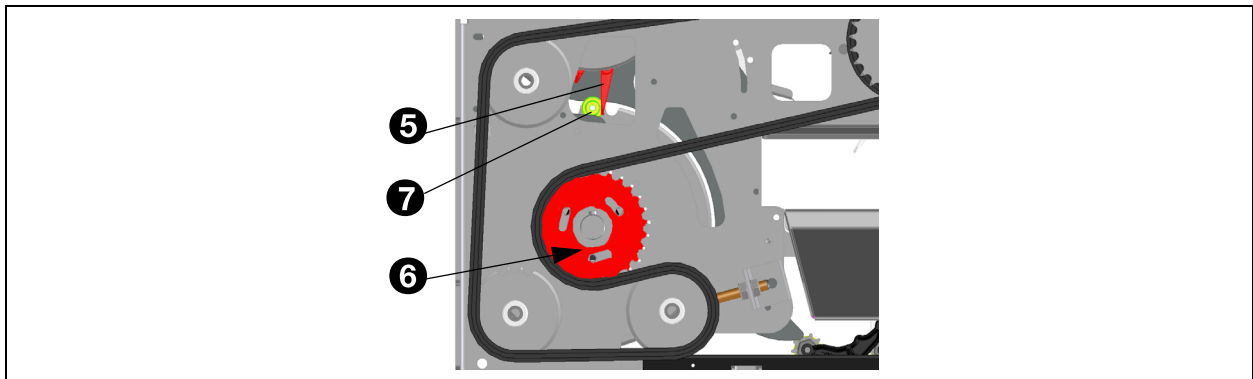
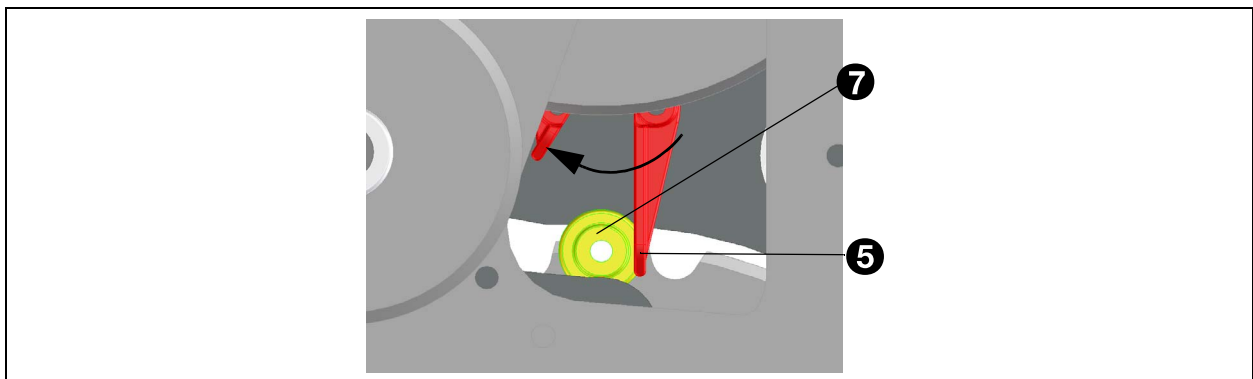

Fig. 57 - Run-in position of U-holder
Fig. 58 - Detail of the run-in position of U-holder
**If the chain is turned so far that the U-holder presses against the roller (7), see fig. 58, first adjust the U-holder in order to continue with the above-mentioned adjustment.**
1. The roller (7) during change-over by the U-holder (5), shown in fig. 57, runs clear of the leg of the U-holder. See also detail in fig. 58
2. Loosen the bolts of the chain-wheel (6).